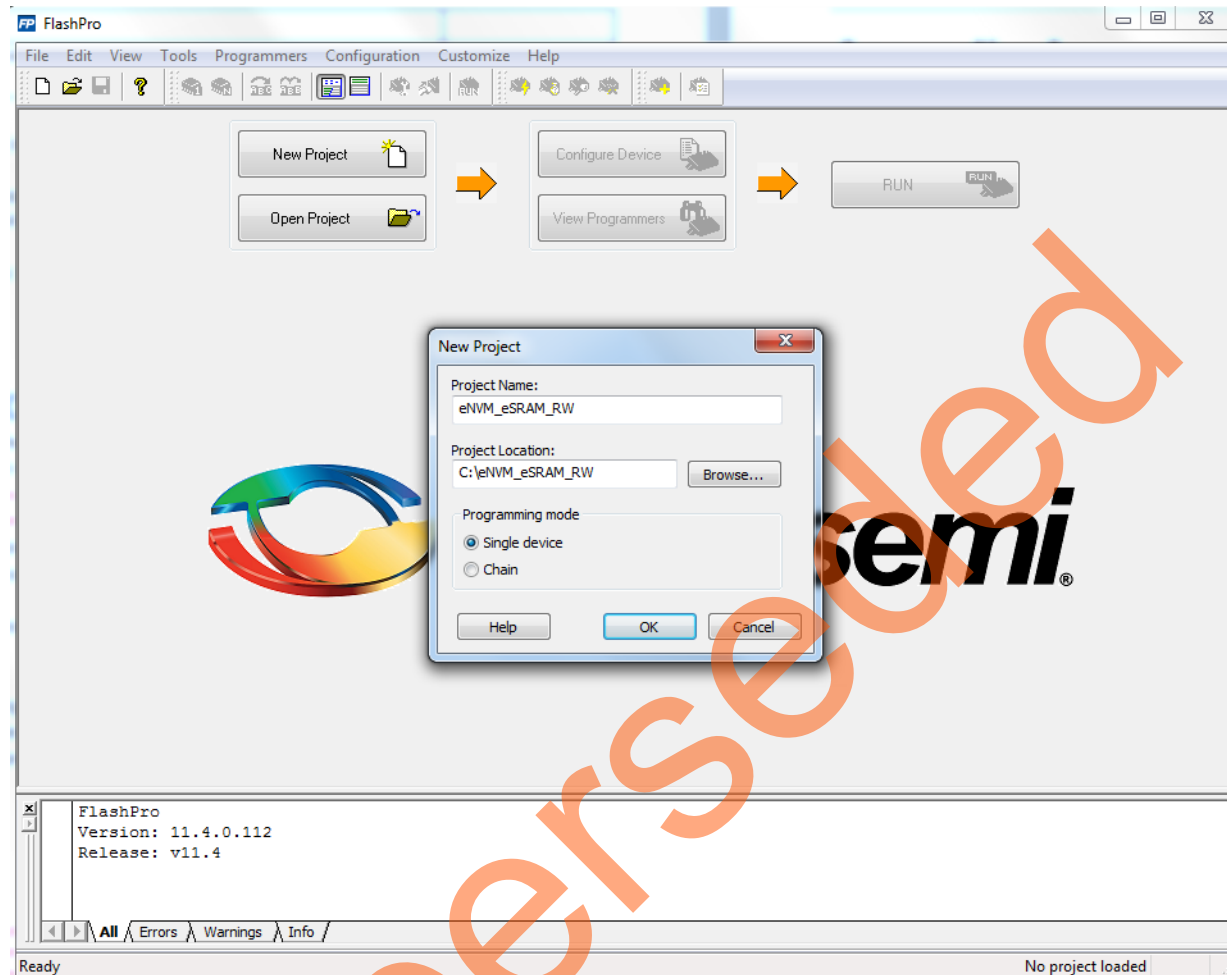

Figure 18 • FlashPro - New Project
4. Click **New Project** (see Figure 18).